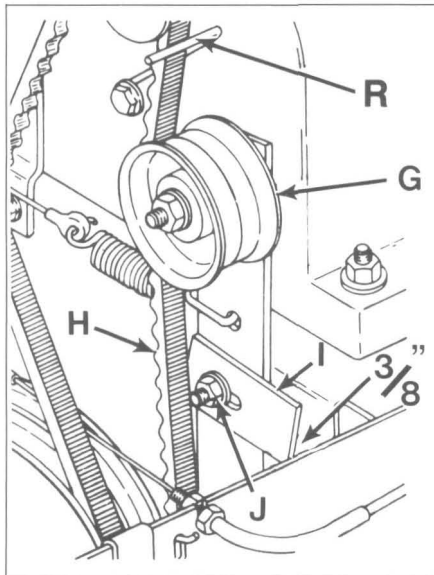

Figure 5-5
2. Push the idler pulley (Figure 5-5, Item G) to the left until the belt (Figure 5-5, Item H) is tight.
3. Adjust the idler stop (Figure 5-5, Item I) so that there is a gap of 3/8-inch between the left-hand edge of the idler stop and the inner surface of the frame. Make this adjustment by loosening the idler screw stop nut (Figure 5-5, Item J) and sliding the idler stop right or left as needed. Re-tighten the idler stop nut when you have the 3/8-inch gap.
7. You may have to loosen the bolt that secures the engine pulley belt guide (Figure 5-5, Item R) in place and turn this belt guide out of the way.
2. If you had to loosen the bolt that secures the engine pulley belt guide (Figure 5-5, Item R) in place, position the leg of this belt guide approximately 1/16-inch from the outer surface of the wheel drive belt and tighten the bolt that secures it to the back of the engine.